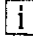

Figure 1
2. Check alternator manufacturer model (M 112 only, from top with mirror, Fig. 1)